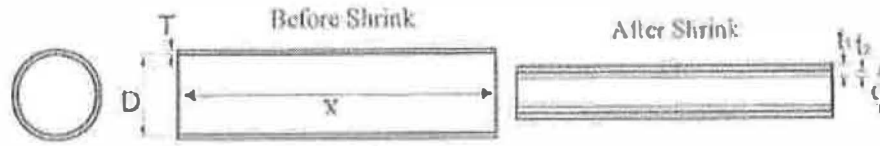

Figure 3 Heat Shrinkable tube
3.5.7. The dimensions of heat-shrinkable tube shall be as the Figure 3 and Table 1.